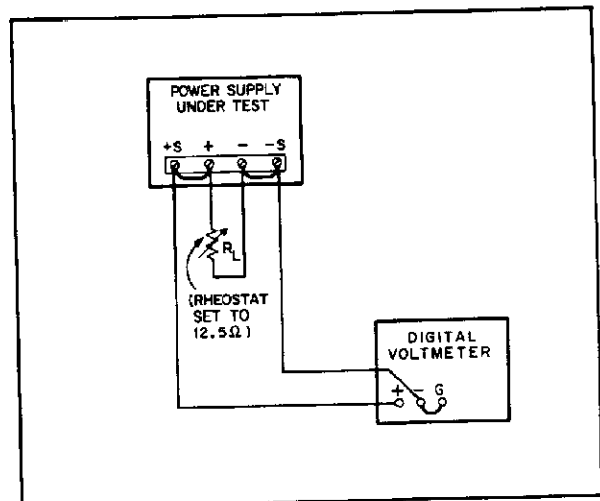

Figure 5-1. Constant-Voltage Test Setup
- Connect load resistance and digital voltmeter across rear terminals as shown in Figure 5-1. Set R_L to maximum resistance, initially.
- Connect test setup shown in Figure 5-1.
- a. Connect load resistance and digital voltmeter as illustrated in Figure 5-1.
- a. Check load resistance and digital voltmeter as illustrated in Figure 5-1.